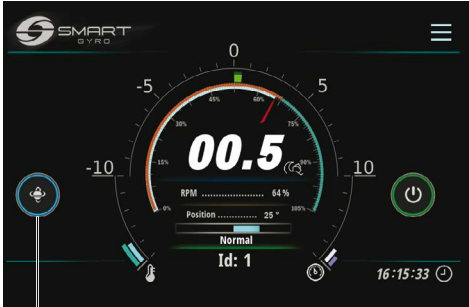

Figure 7
- 7. After the flywheel speed exceeds 55 % of the top speed, precession is allowed and the circle around the icon goes blue, indicating that precession is unlocked and the sphere is able to oscillate (Figure 7, (1)).